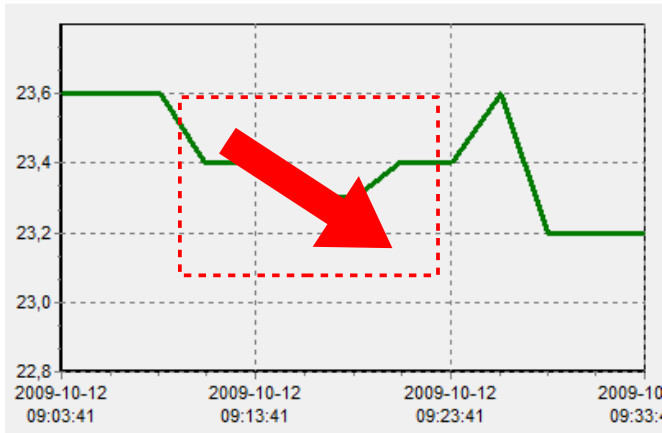

Figure 4.6. Enlarging graph
- **enlarge graph** - a graph can be enlarged by marking the area of interest with the mouse pointer. In order to do this first left-click on the graph and, while holding down the left mouse button, drag the pointer to the bottom right corner of the graph. The rectangle marked this way will be enlarged. (**Figure 4.6**). To restore main scale of the graph, press left mouse button and move cursor to the left top corner of the graph or use **[Refresh]** push-button.